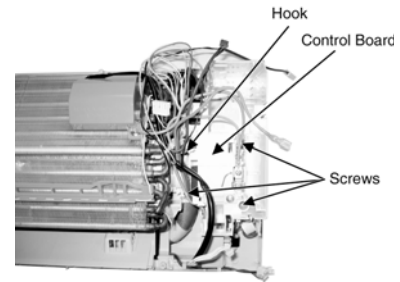

Fig. 9
- Release the 3 screws (Fig. 9)
- By pressing down the hook at left hand side of control board, you will be able to remove the Control Board. (Fig. 9)